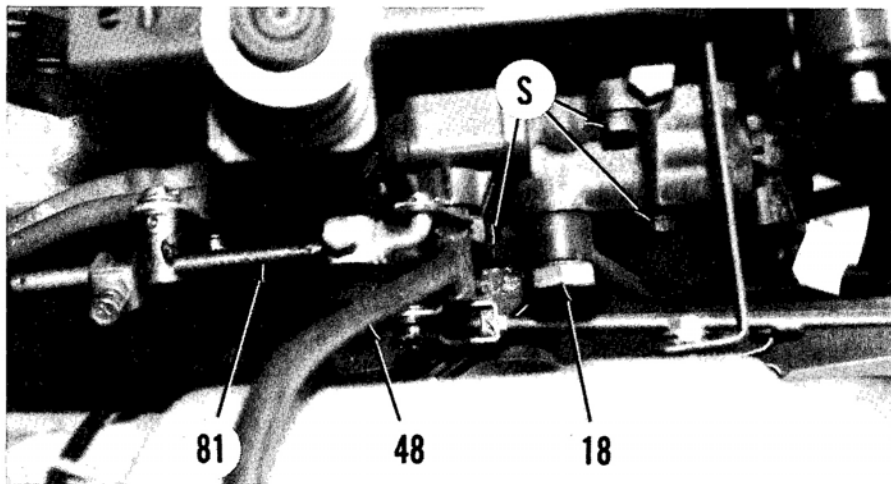

Fig. 100 - Top view of control valve and related components.
97. REMOVE AND REINSTALL. Drain transmission/hydraulic system fluid into a suitable container. Detach control rod (81-Fig. 100) from lever (48). Remove fitting screw (18) while noting copper washers (17-Fig. 96). If needed, remove control valve hydraulic supply line. Remove any other components that will obstruct control valve assembly removal. Remove the three cap screws (S-Fig. 100) securing control valve assembly to lift cover, then remove control valve. Note the two "O" rings (32-Fig. 101) located between control valve and lift cover.
Installation is reverse order of removal. Renew "O" rings (32) and tighten cap screws (S-Fig. 100) to